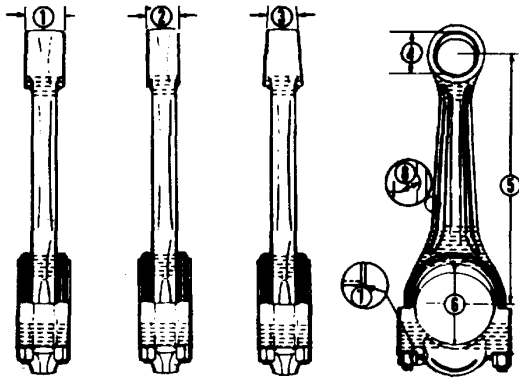
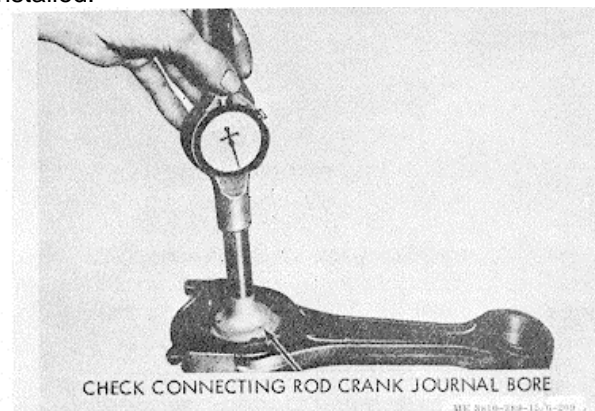
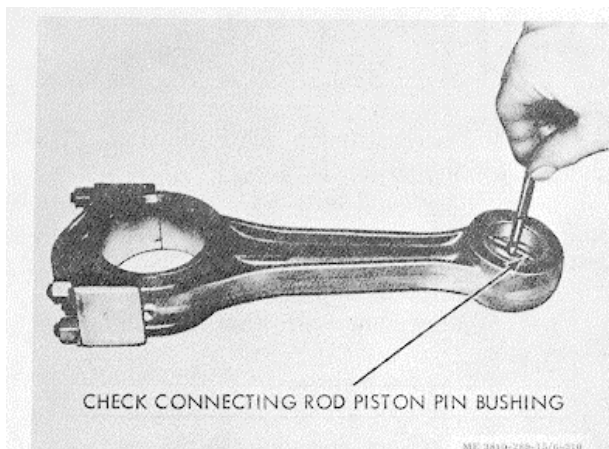

Figure 3-200. Connecting rod specifications.
Figure 3-201. Connecting rod crank journal bore check.
Figure 3-202. Connecting rod piston pin bushing check.
Note. Be sure rod and cap are kept mated at all times. Check rods for cracks with 1800 ampere current AC equipment or 1500 ampere current DC or rectified AC equipment longitudinally between plates. Check rods for cracks with 3400 ampere-turns with AC equipment or 2600 to 2800 ampere-turns with DC or rectified AC equipment in a coil. Pay particular attention to shaded critical areas shown in figure 3-200.
(c) Check crankpin bore with a dial bore gage or inside micrometers. Correct size is important to provide correct bearing crush. See table 2-2, figure 3-201 and (6, fig 3-200).
(d) Check piston pin bushing diameter with ST-504 plug gage or with inside micrometers. See table 2-2, figure 3-202 and (4, fig. 3-200).
are 9.500 in. between centers. (Production rods may vary from 9.498 in. to 9.500 in. (5, fig. 3-200).
1. Minimum 0.070 in. fillet radius at all corners, (7, fig. 3-200). Maximum 1/16 in. metal may be milled off to restore radius.
2. Remove nicks and dents which are less than 1/16 inch deep by grinding or filling with a half round file. Radius must be 1/2 inch or more. Blend radii at ends of cut. Scrap rod if dents are deeper than 1/16 inch, (8, fig. 3-200).